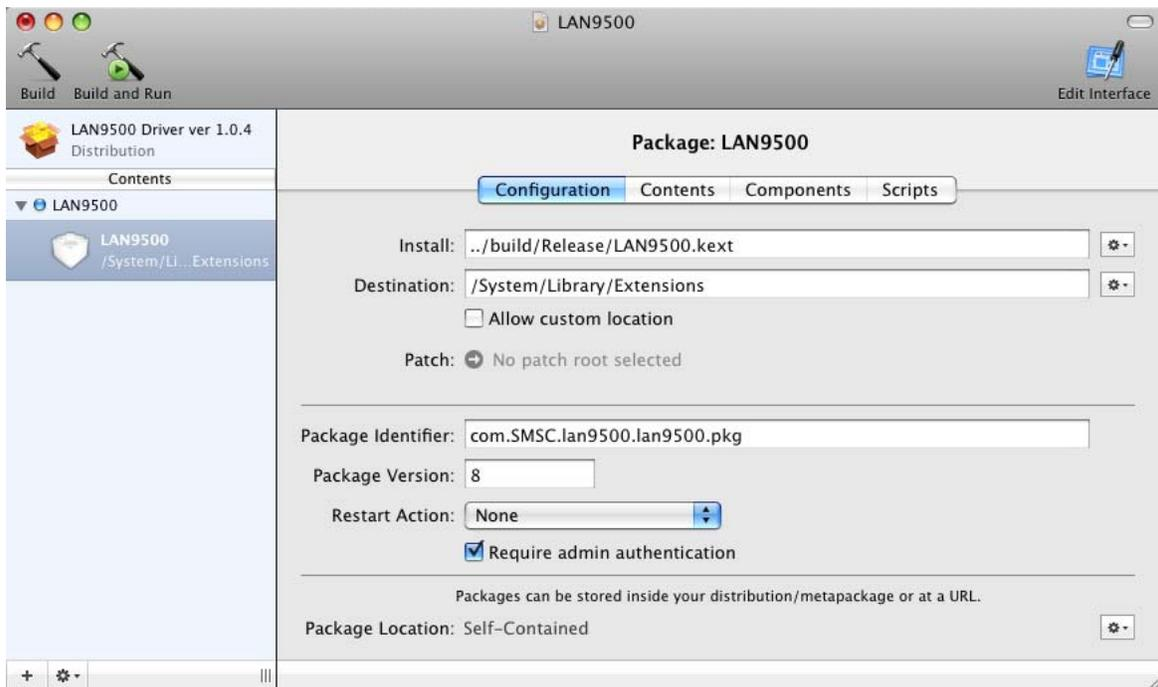

Figure 7.9 Configuration Information
- Complete the information under the “Configuration” heading as suggested in Figure 7.9, modifying as necessary for the user’s application.